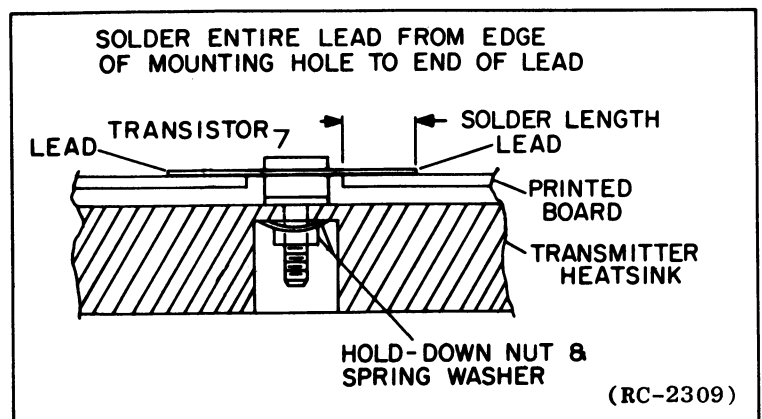

Figure 6 - Lead Forming
6. Make sure that the transistor leads are formed as shown in Figure 6 so that the leads can be soldered to the printed circuit pattern, starting from the inner edge of the mounting hold.